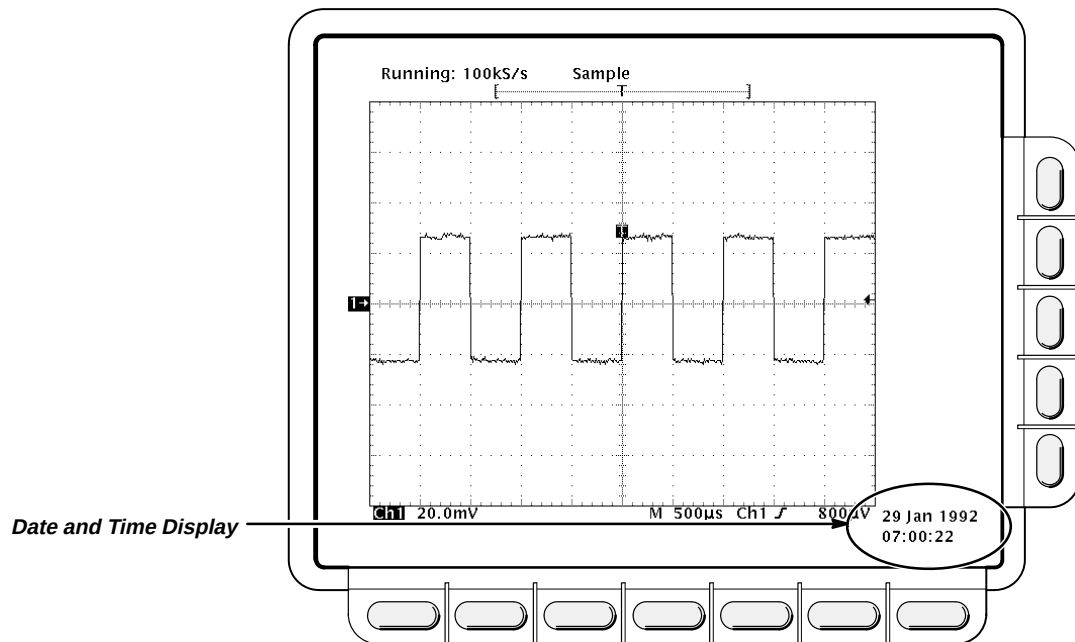

Figure 3-18: Date and Time Display
3. Press **Clear Menu** to remove the menu from the display so the date and time can be displayed. See Figure 3-18. (The date and time is removed from the display when menus are displayed.)